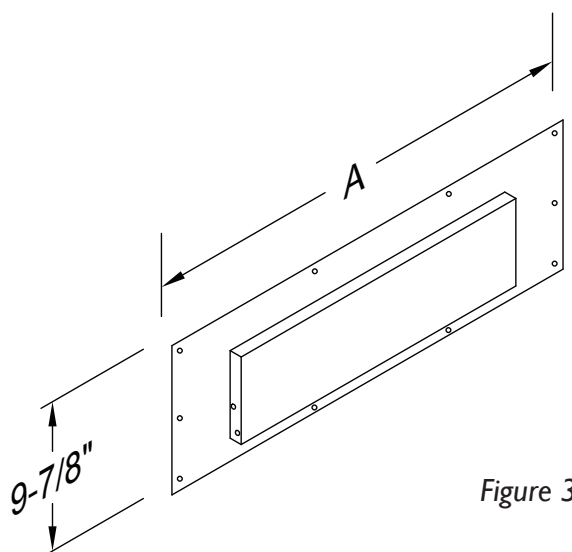

Figure 3
- The panel, shown in **Figure 3**, can be used as the drilling template for attachment to the custom panel.